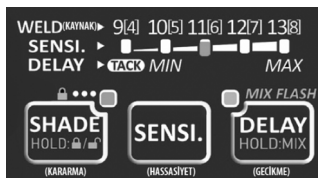

Figure 2
- For settings from 9-13, first select the welding mode, then press the SHADE button briefly. While the SHADE light blinks, press the button to select a shade level between 9 and 13 and stop at the desired level (see Figure 2).
- For settings from 4-8, first select the welding mode, then press the SHADE button briefly. While the SHADE light blinks, press the button to select a shade level between 4 and 8 and stop at the desired level (see Figure 2).